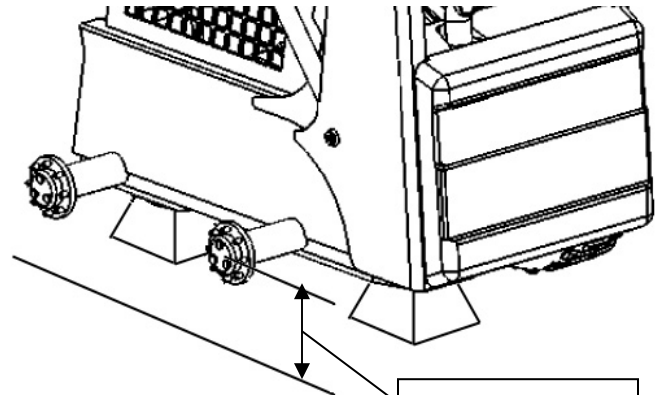

Fig. 2
2. Following your skid steer manufacturer's instructions, raise the skid steer until the center of the drive axles are a minimum of 22" off the ground. Using jack stands or equivalent, securely block the skid steer (**Fig. 2**)